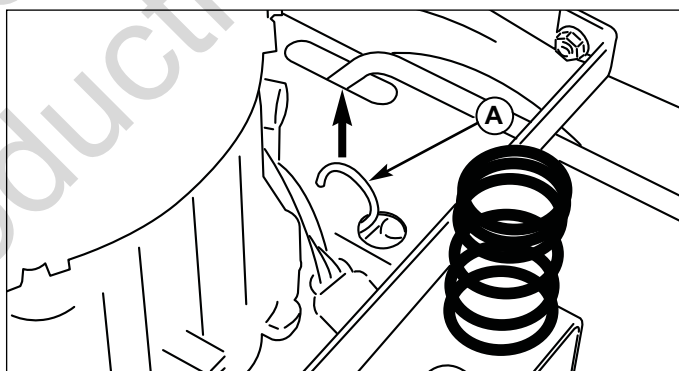

Figure 2. Roll Release Components (On Each Side)
2. To disengage the transmissions, pull the roll release rods (A, Figure 2), located on either side of the engine, up into the PUSH position.